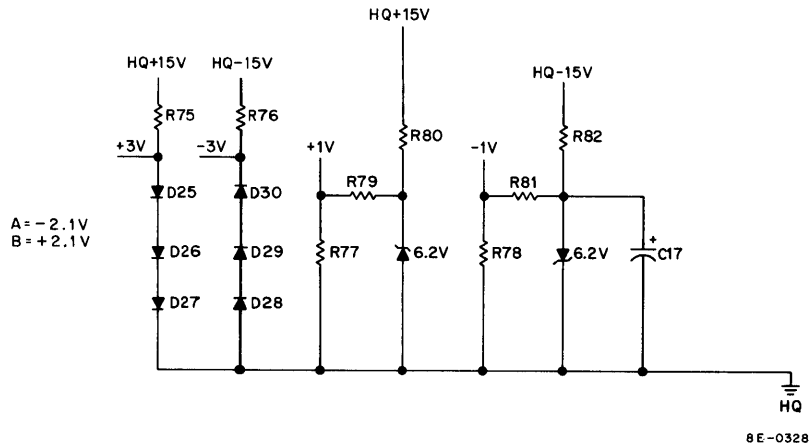

Figure 4-30 AM8-EA Reference Voltages
**4.3.2.3 Reference Voltages** – The AM8-EA provides  $\pm 1$  Vdc and A or B  $\pm 2.1$  Vdc reference voltages (see Figure 4-30). The  $\pm 3$  Vdc is used by the diodes on the input of the differential amplifiers to limit the input to  $\pm 6$  Vdc. The  $\pm 2.1$  V is taken off the diodes as shown in Figure 4-30. The diodes and resistors make up voltage divider networks to produce  $\pm 3$  V. The  $\pm 1$  V reference is generated in the AM8-EA and applied through a cable to the AM8-EC panel, if it is installed, for parameter potentiometers. The  $\pm 1$  V is produced by a voltage divider network made up of a 6.2 V Zener and resistors. The  $\pm 15$  V HQ power is supplied to the voltage dividers from the H851 Edge Connector.